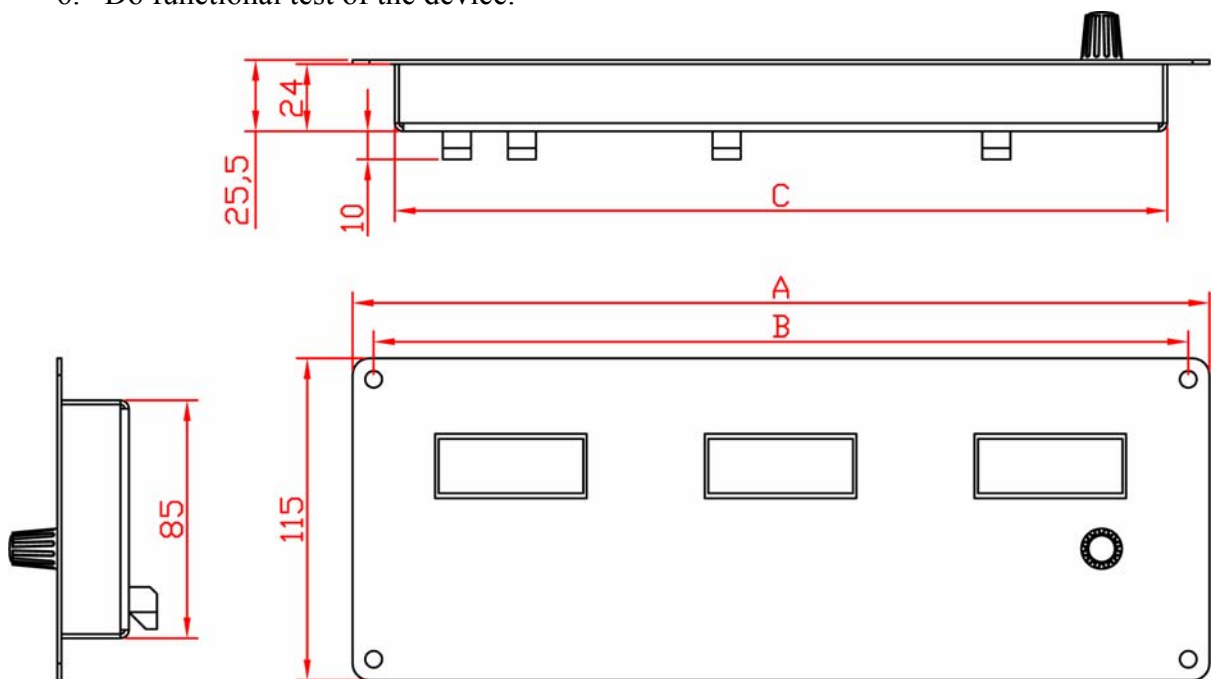

Fig. 5. Dimensional drawing.
2. Prepare mounting holes for device installation. (See Fig.5)